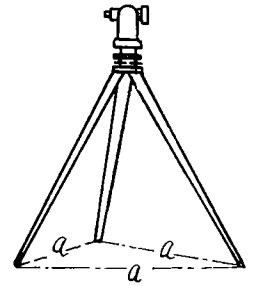
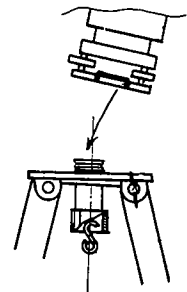
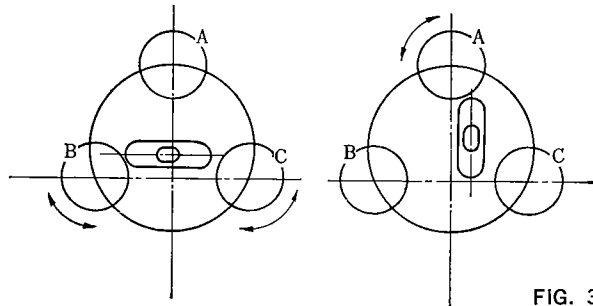

FIG. 1
FIG. 2
FIG. 3
- (1) First, set up the tripod, spreading the legs so that they form a regular tetrahedron. (see Fig.1)
- (2) Firmly set tripod shoes into the ground in such position that the tripod head is located as near as possible above the point. The tripod head should be kept as level as possible and wing nuts (if any) tightened.
- (3) Remove the theodolite from its case and set it on tripod head. Screw the mounting bolt of the tripod head into the female thread in the bottom of tribrach base. (see Fig. 2)
- (4) Level the theodolite while observing the circular level vial on the tribrach base. When the bubble is in the center of the circular level vial the instrument is approximately level.
- (5) Next, level the instrument by means of the plate level vial. Place level vial in position parallel to leveling screws B and C. (see Fig. 3) Adjust position the bubble using leveling screws "B" and "C". Now, turn the instrument 90°, adjust level with levelling screw "A"
- (6) Set the instrument on the point accurately by observing the point through the optical plummet. By slightly loosening the mounting bolt. (Fig. 2) the instrument may be shifted so to center the optical plummet reticle on to the point. If necessary, the leveling procedure in (5) may have to be repeated.
- (7) When the instrument is level and all vertical alignment is correct the optical reticle center will remain on the point throughout a 360° rotation of the instrument.